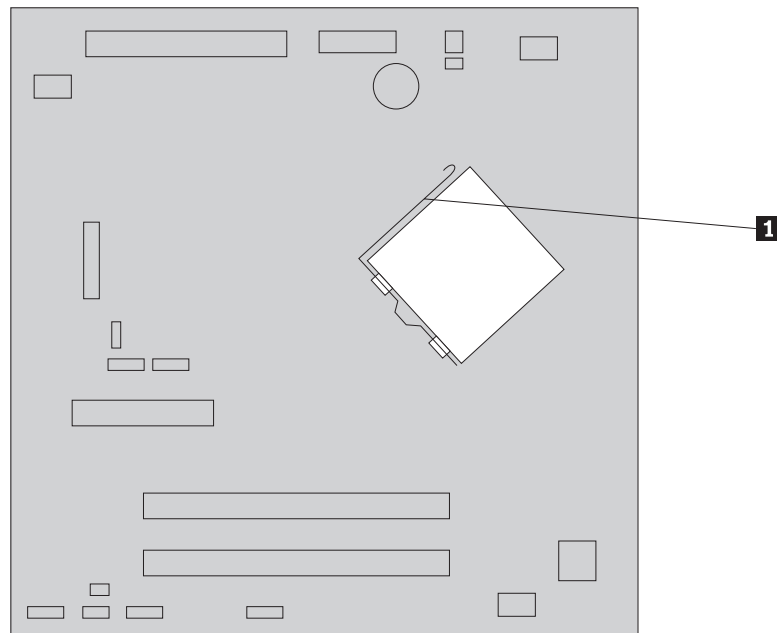

Figure 21. Removing the heat sink
3. Remove the heat sink from the system board by pivoting the lever **1** securing the heat sink until it is fully in the up position. Carefully lift the heat sink off of the system board. See Figure 21.